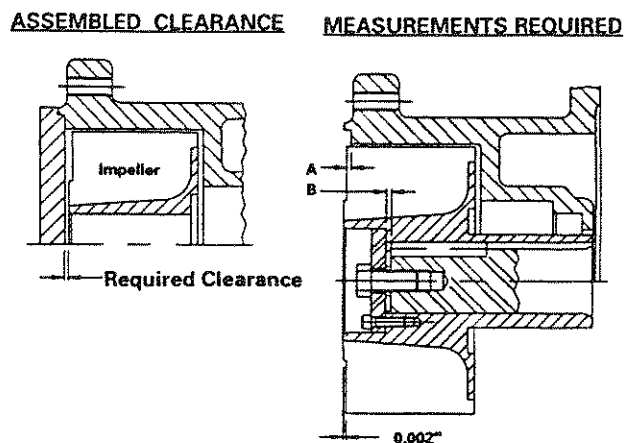

FIGURE 10
5. Place a straight edge across the impeller hub and measure the clearance between the straight edge and machined mounting face of center body (10.50) using feeler gauges (refer to Figure 10). Record this dimension.